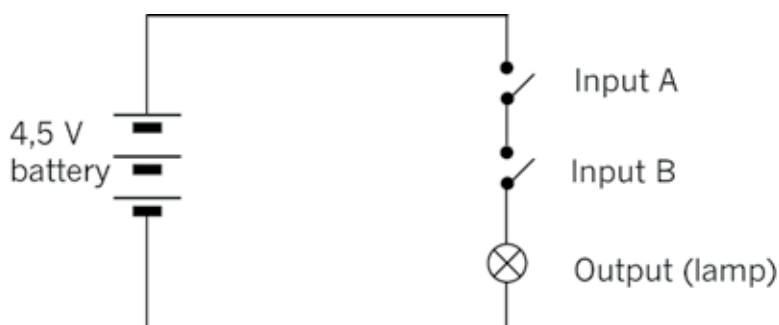

Figure 11: Circuit with two switches in series
6. In the table below, “0” means off or open, and “1” means on or closed. Complete the table to show all the different combinations possible in the circuit in Figure 11. To help you, the first two rows of the table have already been completed. Make sure you understand those two rows before you complete the rest of the table